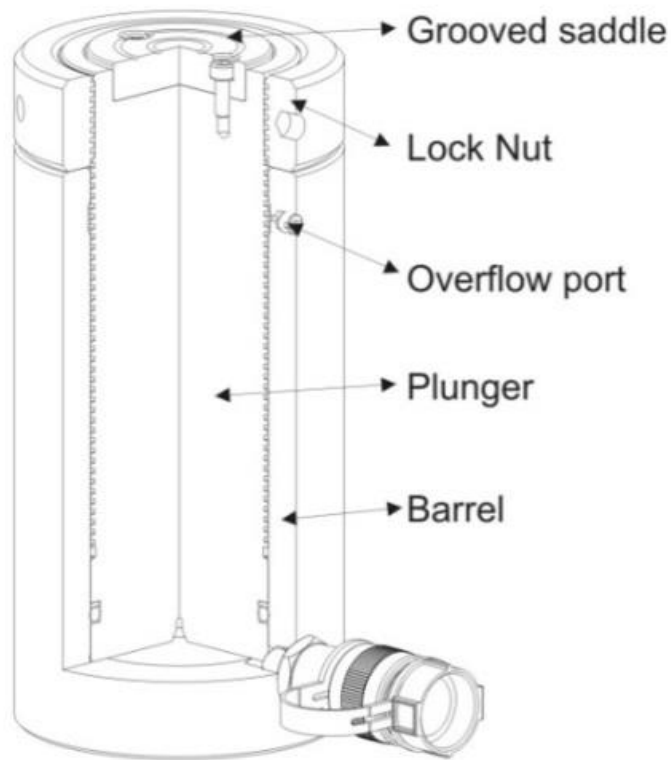

Figure 2 – RSLC Series Sectional Drawing
- 4.5 Remove air from the system – Position the cylinder so that the piston rod is pointed down and the cylinder is lower than the pump. Advance and retract the cylinder several times, avoiding pressure build-up. Air removal is complete when the cylinder motion is smooth. See Figure 2 (below).